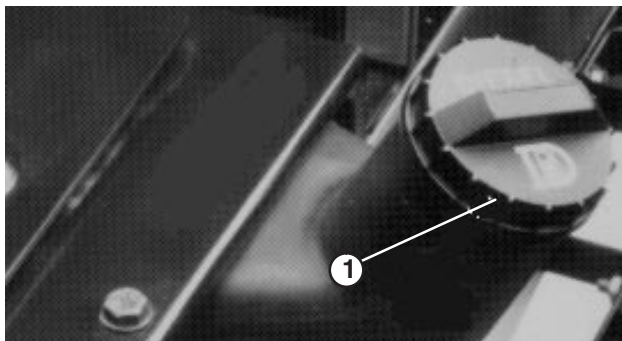

Figure 15
2. Remove cap from the fuel tank (Fig. 15).